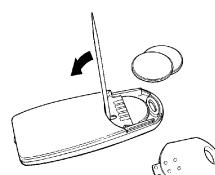

Fig. 10
- Insert a small non-metallic pointed tool in the slot as shown in figure 10 and force the batteries out.